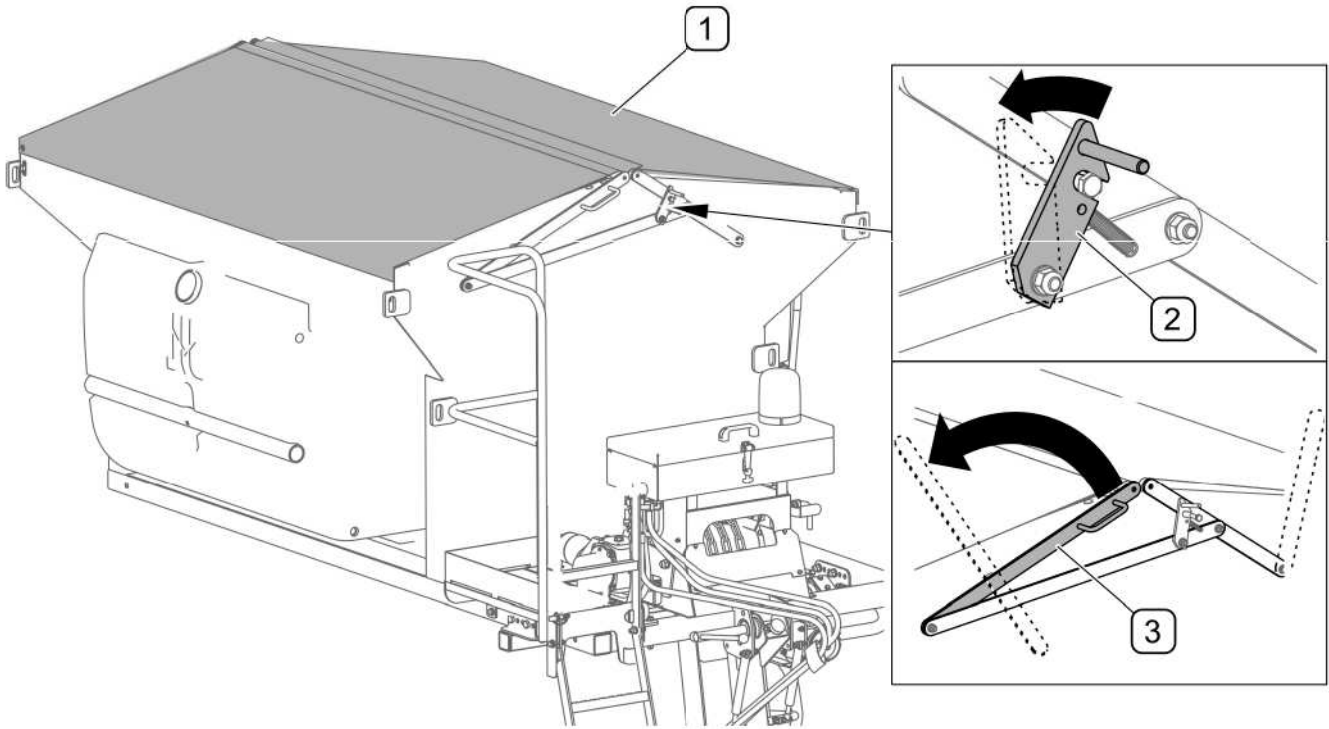

FIG. 4.14 Raising the tank's tarpaulin cover
- hold the ladder (1) and remove securing cotter pin (3),
- lower the ladder (1).
In proper rising sequence, raise two-part tarpaulin cover (FIG. 4.14) installed on the tank frame. Release catch (3) and raise tarpaulin cover by means of frame lever (3) (FIG. 4.14).
(1) - tarpaulin cover; (2) - catch; (3) - frame lever
Before loading, check that there are no foreign objects (tools, stones etc.) in the tank. The tank should be loaded from above through the screen that prevents lumps of material from entering the tank. When loading the tank, it is recommended to use a front loader or belt conveyor. Efforts should be made to evenly distribute the load in the tank in order to ensure proper stability of the sand spreader. Avoid throwing material into the tank from a great height. After loading, cover the tank with tarpaulin (FIG. 4.14) and make sure that the pawl (2) is locked.